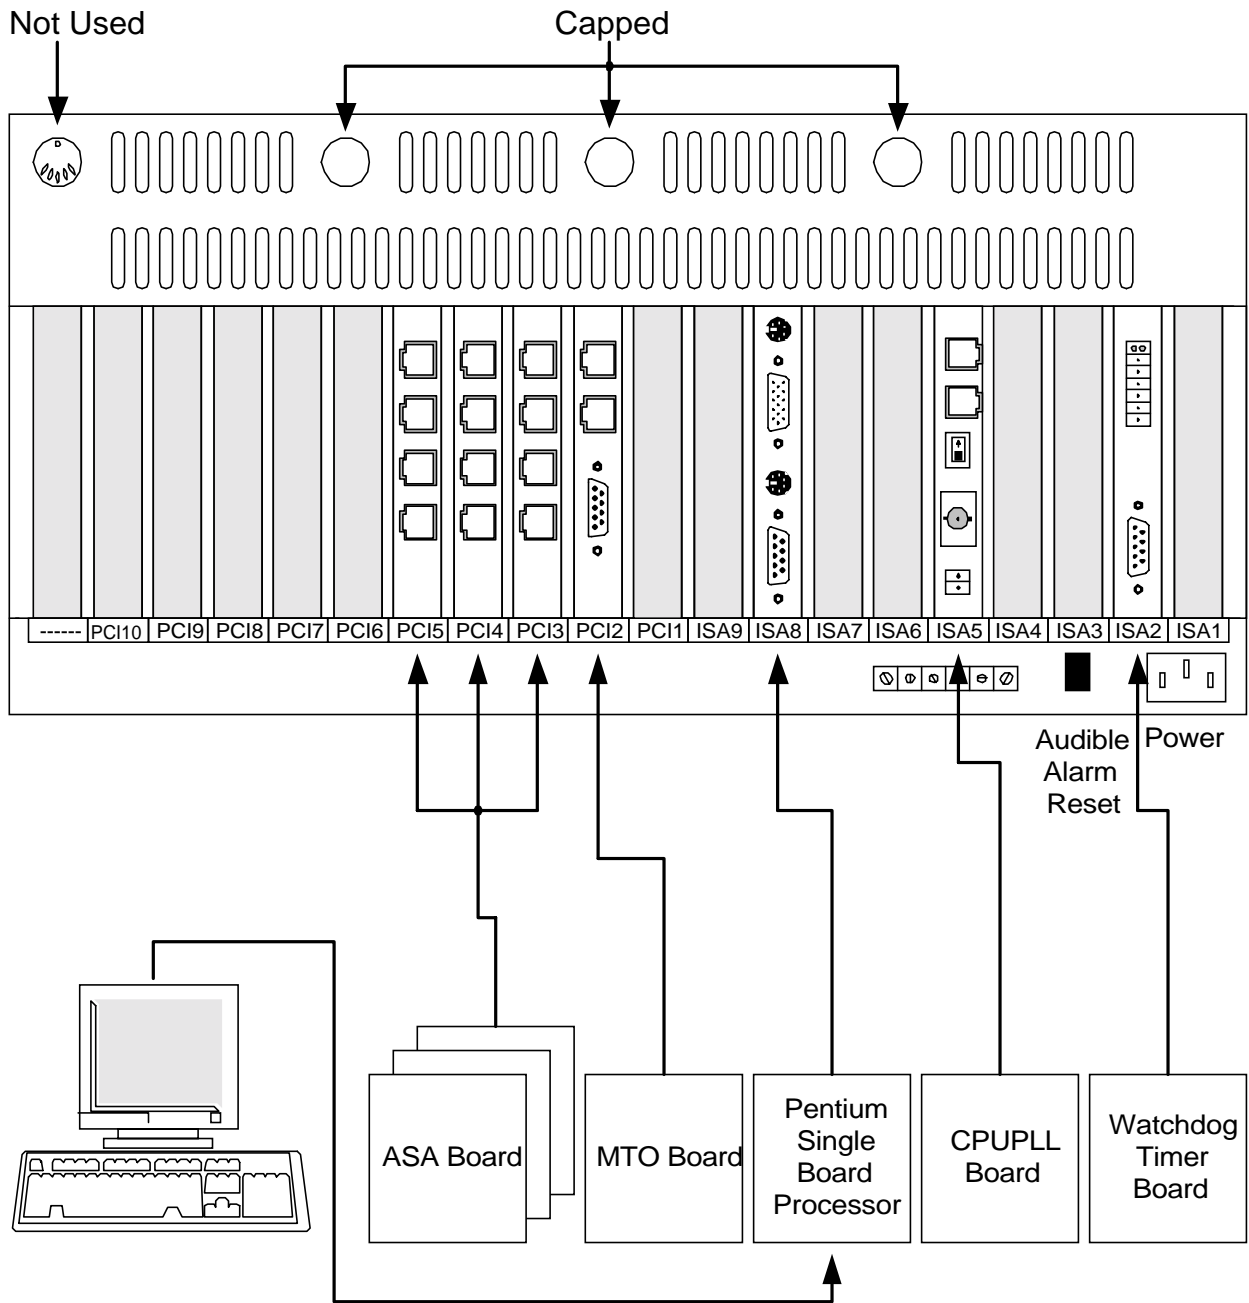

Figure 1. Unitymux 4025 Block Diagram
A block diagram of the Unitymux 4025 is shown in Figure 1 (Page 16). The System Controller is a single board computer using a Pentium II MMX processor. It provides user interface and system configuration, and is referred to as the host processor. The System Controller is the primary interface to the user. The Multiplexer/Transport Output Board (MTOB) fetches data from data input boards, provides system timing, creates MPEG Transport Stream (TS) serial data signal, and outputs this signal to the associated transmission system. Multiple Audio/Synchronous/Asynchronous Boards (ASAB) are used to accept input data that are assembled into MPEG packets, which are accessed and transmitted by the MTOB. All these boards are assembled in a chassis that includes a PCI Local Bus Revision 2.1 back plane.